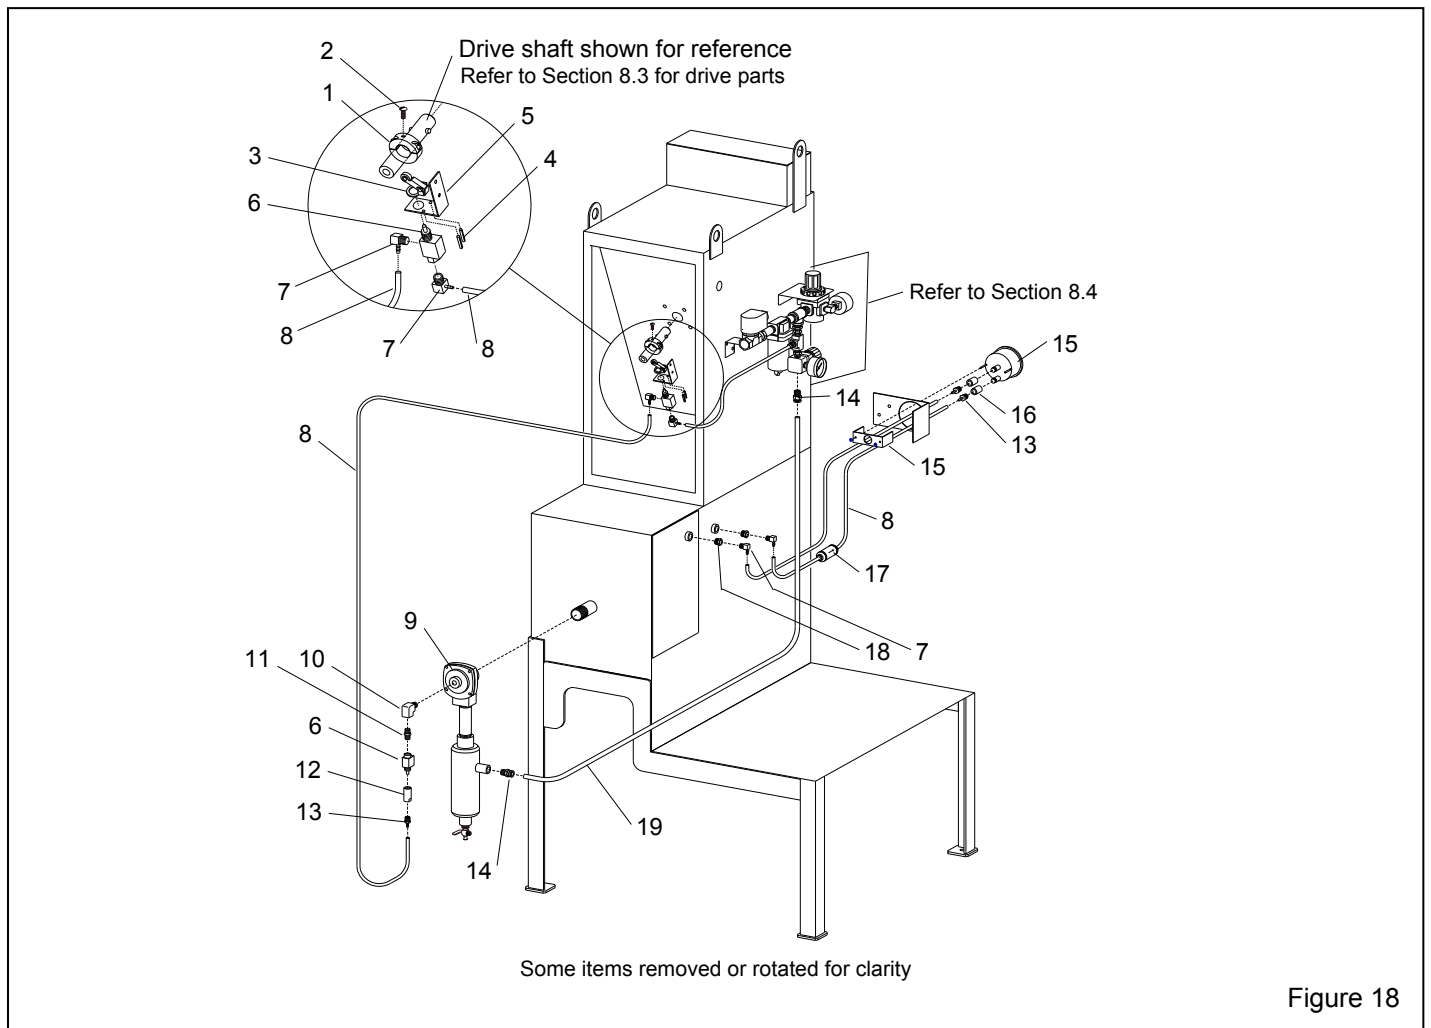

Figure 18
8.7 Dust Collector Pulse and Plumbing, Figure 18